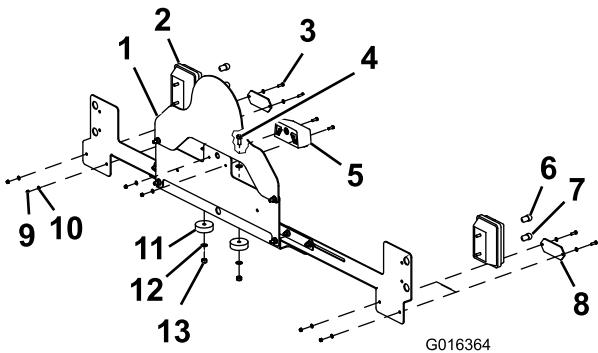

Figure 10
4. Assemble the 2 indicator bulbs, 2 side light bulbs, 2 rear indicator lights, 2 reflectors, and the license plate lamp to the tail board with 6 hex-head bolts (M5), 10 washers (M5), and 6 locknuts (M5) as shown in (Figure 10).
6. Secure the lighting board to the rear cross member with 2 bolts (M8), 4 washers (M8), 2 nylon spacers, and 2 locknuts (M8) (Figure 10).